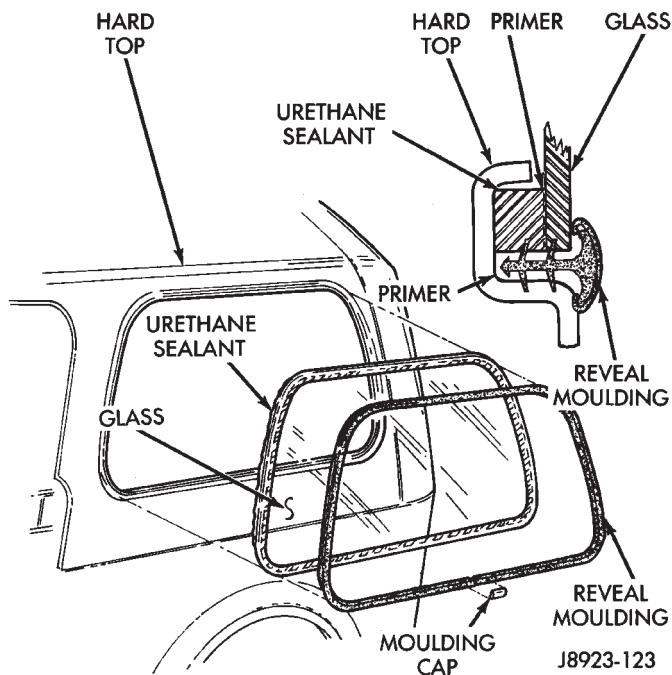

Fig. 8 Hard Top Quarter Window Glass
(1) Cover surface areas with protective covering to avoid paint damage and extra clean-up time.
(2) Remove the reveal moulding (Fig. 8).
(6) Remove the window glass from the opening (Fig. 8).
(7) After the hot knife blade has cooled, clean the hot knife blade with solvent and a cloth. Sharpen the blade with a fine-tooth file.
(1) Inspect the window opening (Fig. 8) Prime any bare spots with urethane primer. Allow a minimum of 18 minutes for dry time.
(2) Inspect the urethane bead for high spots. Level the bead by shaving off high spots with a razor knife. This is necessary for a flush-fit of the window glass.
(3) Inspect the window moulding. Replace the moulding if damaged.
(4) Clean the outer edge of the window glass with naphtha or a similar product.
(5) Prime the outer perimeter of the interior side of the glass 16 mm (5/8 inch) from the edge. Use a wipe-off type urethane primer and wipe the glass dry after primer application.
(6) Place windshield in the opening and inspect for gaps in the urethane. Gaps in excess of 3 mm (1/8 inch) must be filled with urethane.
(7) Adjust window glass position until it is aligned with the opening and the adhesive.
(8) Remove the window glass and position it on a flat surface.
(9) If the replacement window glass does not have blackout primer: